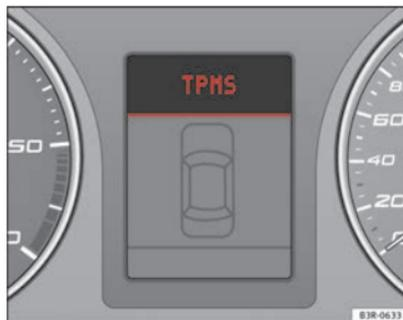
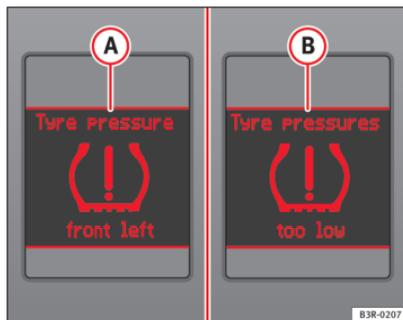

Fig. 46 Display: system fault
Fig. 47 Display: warning message
The yellow warning (L) lamp remains on if the system is faulty or if the pressure is too low in at least one tyre. In the event of a system fault, the letters TPMS are displayed in the centre of the instrument panel => Fig. 46. If the tyre pressure drops rapidly, message (A) => Fig. 47 will be shown on the central display of the instrument panel. If the pressure loss is more gradual, message (B) => Fig. 47 will be shown on the central display of the instrument panel. This message does not show the tyre affected. Should any of these warnings be displayed: